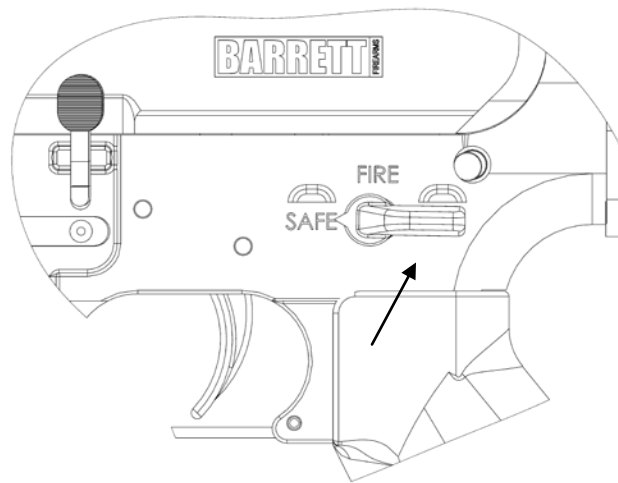

Figure 11
1. Place the selector switch on SAFE. (Figure 11).